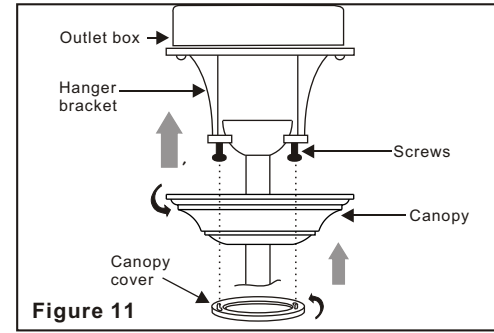

Figure 11
**Step 2.** Slide the canopy up to ceiling and over the 2 screws on the hanger bracket. Rotate canopy clockwise. Next, while holding the canopy with one hand, slide the canopy cover over the screws and rotate clockwise until tight. **Note:** adjust the canopy screws as necessary until the canopy and canopy cover are snug. (Fig. 11)